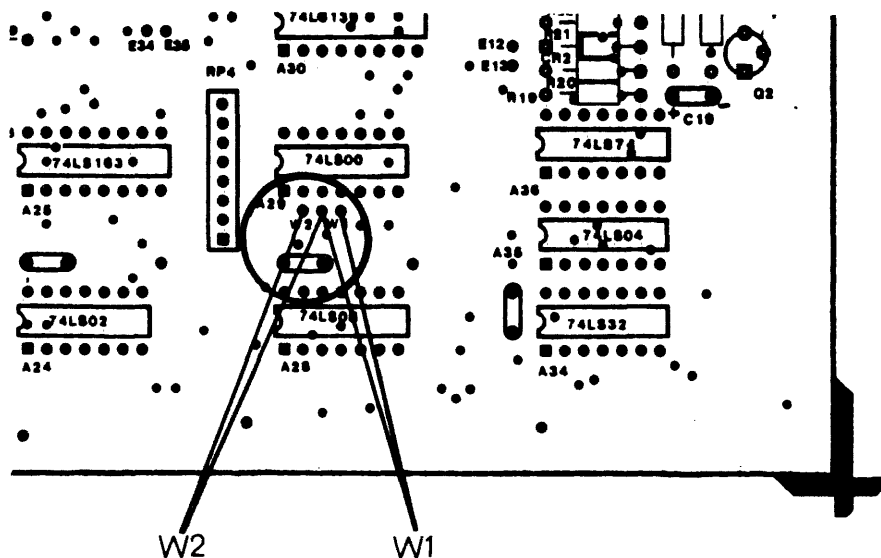

Figure 7-4 Position of Jumper Plug
2. Move the jumper plug (Part No. 2098300) from position W1 to position W2 as shown in figure 7-4. For reference, the jumper plug appears on page 3 of 5 of the gate array board schematics.